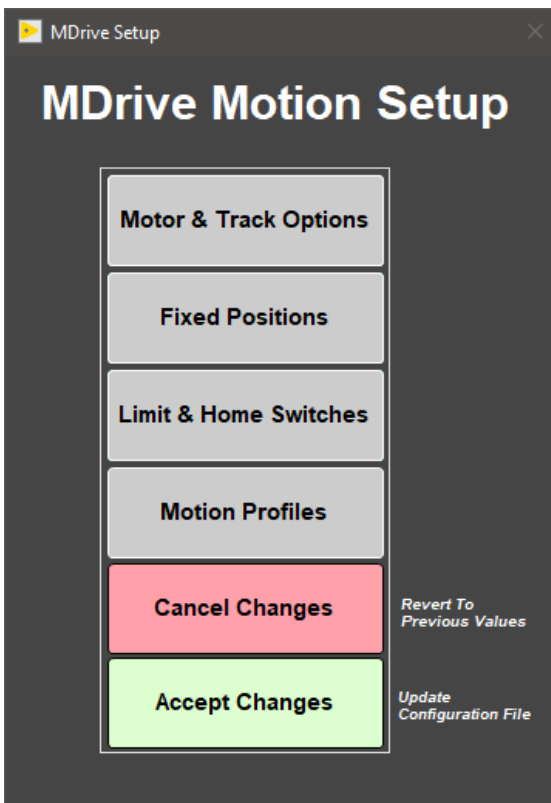

Figure 20. M-Drive Motion Setup
- The M-Drive Motion Setup control panel will open (Fig. 20).